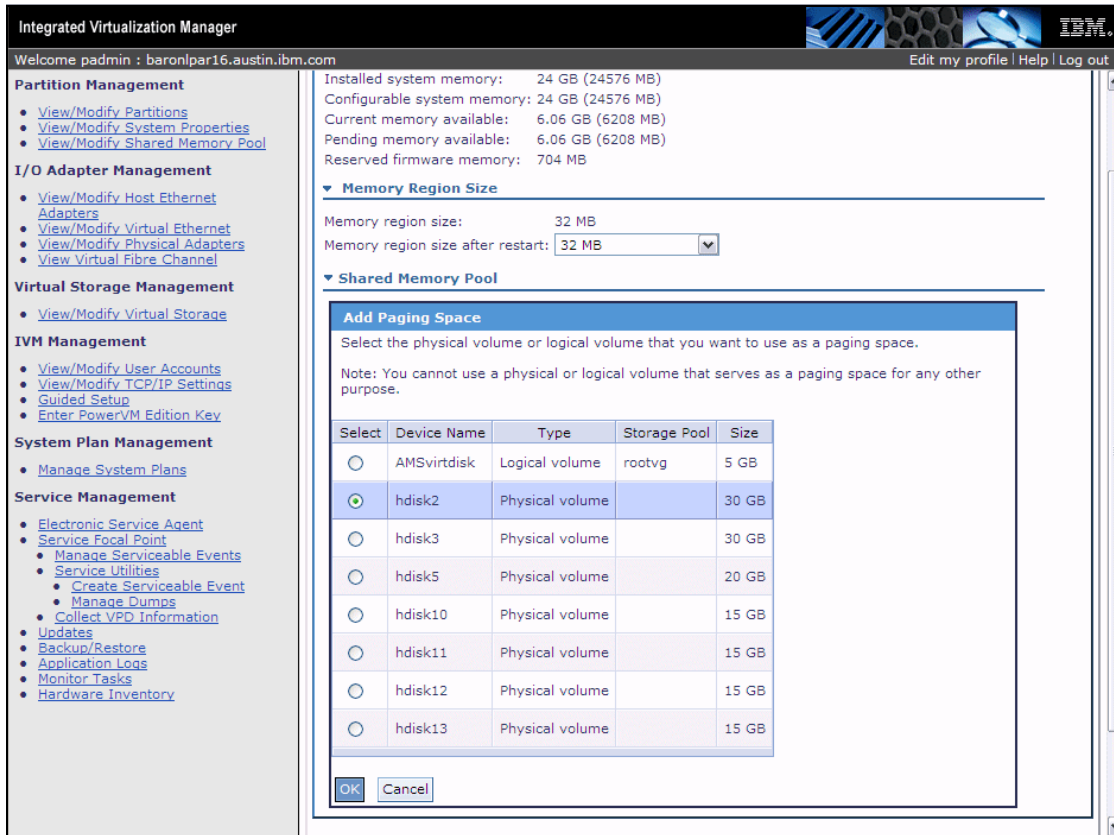

Figure 5-10 Dedicated device selection for share memory use
3. The **Add** button is clicked next to display the devices that are available for selection. Choose the desired physical volume device and click the **OK** button as shown in Figure 5-10 on page 193